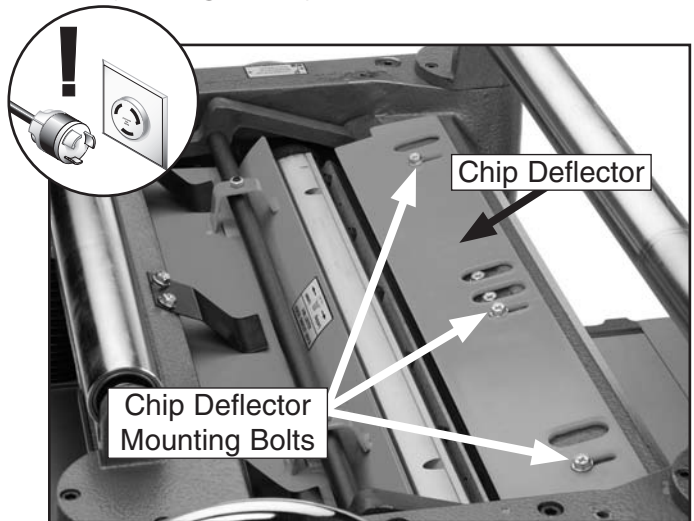

Figure 38. Chip deflector and mounting bolts.
3. Loosen the chip deflector mounting bolts (see **Figure 38**).